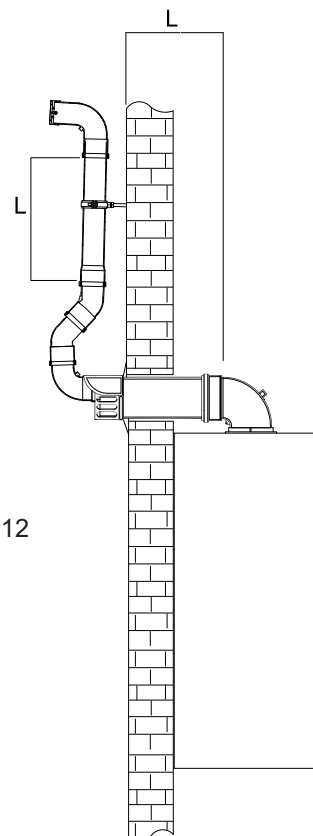

Fig. 12
This appliance will produce a plume of condensation in cool weather. This is due to the High Efficiency and hence low flue gas temperature of the boiler. A plume management kit is available. (see section 5.7 fig 12)
5.7 PLUME MANAGEMENT KIT (Fig 12)
TER110101 (Fig. 12)	1 metre high plume kit containing: n. 1 terminal bend n. 1 90° elbow bend n. 2 45° bend n. 1 metre 60 M-F flue length n. 1 flue length bracket